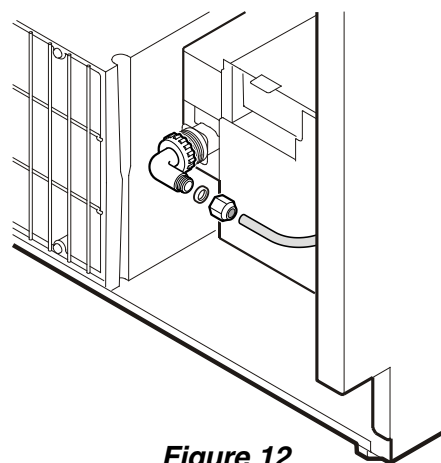

Figure 12
7. The water line is visible at the front of the appliance. Screw the OD adapter onto the solenoid valve and connect the water line with the adapter (**Figure 12**).